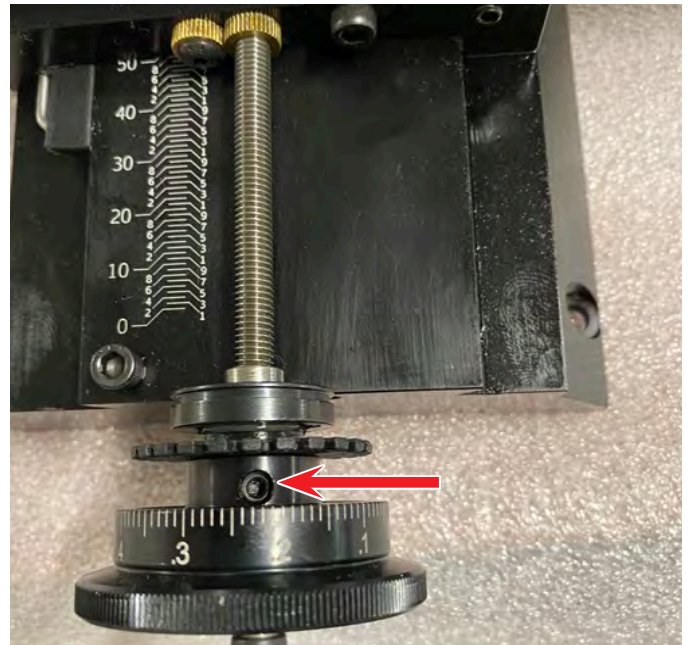

FIGURE 2—Handwheel set screw location.
- B. Position the saddle so it is about 2" (50 mm) away from the end of the base. This will give you room to access all of the screws. Now rotate the handwheel until you see the 10-32 set screw. Loosen the set screw and remove the handwheel (see Figure 2).